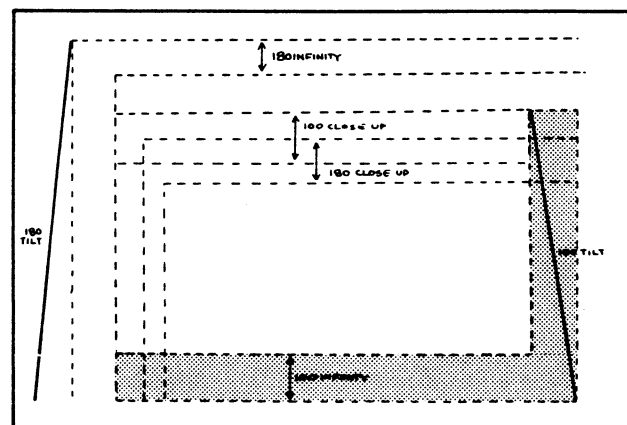

FIG. 3.9 FRAME TARGET - 100 INFINITY & 100 TILT
- b. Move the focus bar to INFINITY: Observe that the right side and bottom lines of the projected frame image are within the area bounded by the 100 infinity and 100 tilt target lines (Figure 3-9). If they are not, adjust the parallax as instructed in Section V.